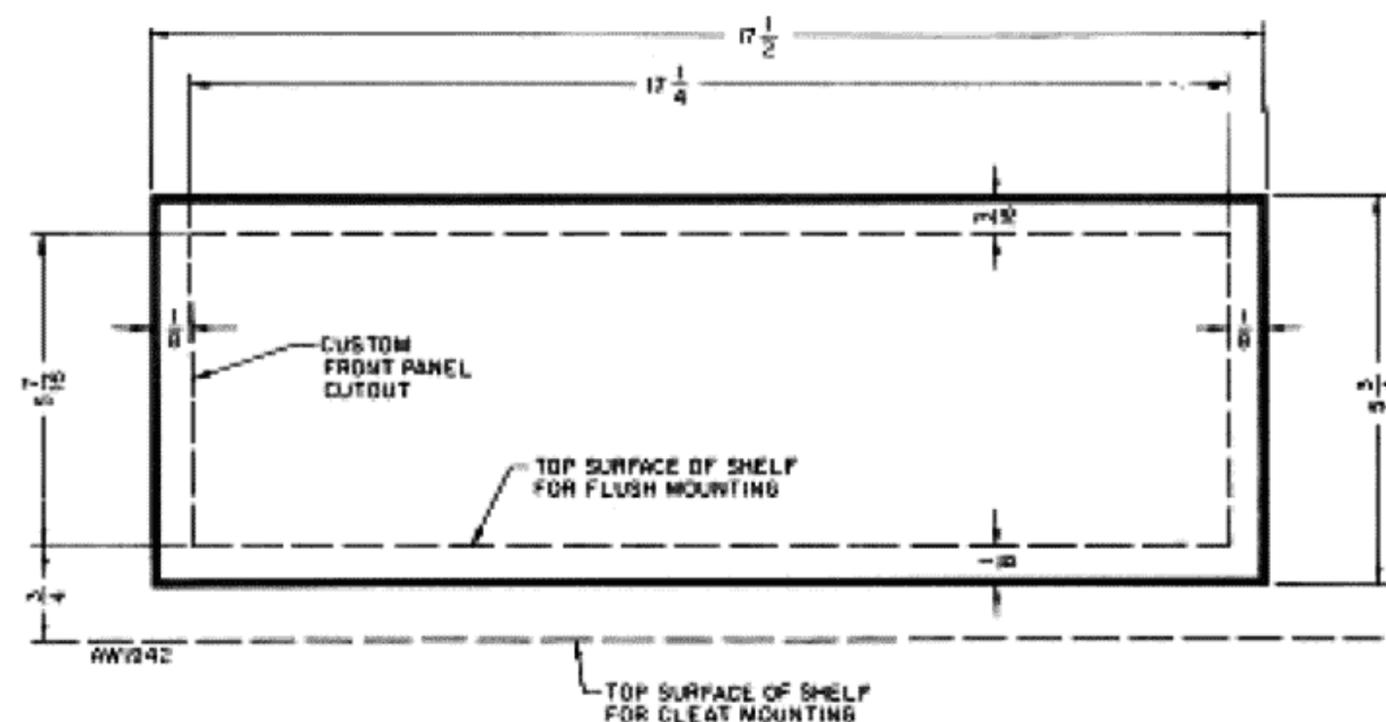

FIGURE 2. Front panel cutout.
- 3-Saw a cutout through the front panel of your cabinet to the dimensions shown in Figure 2. The distance between the top surface of the mounting board and the bottom of the cutout must be the same as the height of the cleats.
3—Saw a rectangular cutout through the front panel of your custom cabinet to the dimensions shown in Figure 2. Note that the bottom of the cutout coincides with the top of the mounting shelf, since cleats are not used in this installation.